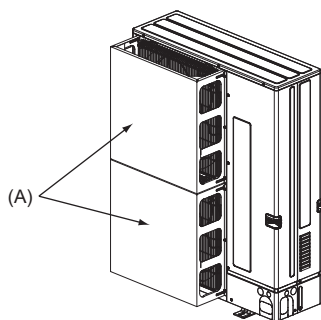

Fig. 2-5
- (2) Install an optional air guide if the unit is installed in a location where strong winds from a typhoon, etc. may directly enter the air outlet. (Fig. 2-5)